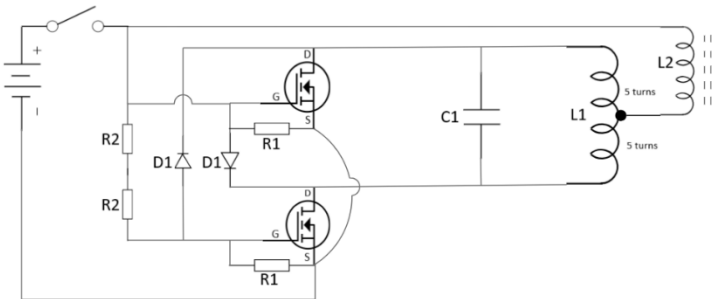

Figure 2: A basic circuit that can be used to make an induction heater.
How exactly does induction heating work? It helps to have a basic understanding of the principles of electricity. When an alternating electrical current is applied to the primary of a transformer, an alternating magnetic field is created. According to *Faraday's Law of Induction*, if the secondary of the transformer is located within the magnetic field, an electric current will be induced. In a basic induction heating setup, a power supply supplies 12Vdc input voltage through an *oscillator circuit* (shown in figure 2) that drives a transformer with high frequency, high amperage electric current. Here, the inductor (often a copper coil) serves as the transformer primary and the part to be heated becomes a short circuit secondary. When a metal part is placed within the inductor and enters the magnetic field, circulating eddy currents are induced within the part.
2. Take the 18AWG copper wire and a thick marker (or anything similar in size which has a cylindrical shape). Turn the wire around the marker 11 times to get your air inductor (L1). Now, on the 6th turn connect the L2. Now set up rest of the circuit as shown in the circuit diagram given in figure 2.